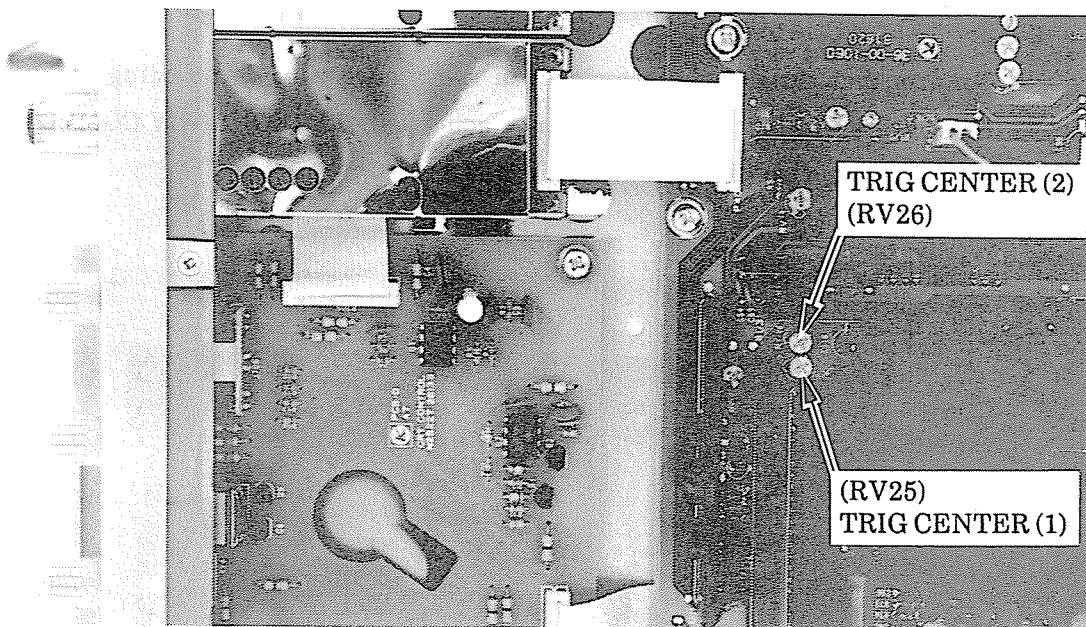

Fig. 4-24 Adjustment position of TRIG CENTER (1) (RV25) and TRIG CENTER (2) (RV26)
- (1) Perform initial setting of the oscilloscope in accordance with Table 4-3.
- (2) Set the input coupling of CH1 to "AC".
- (3) Connect the output of a signal generator which has been set to about 50kHz, to the input terminal of CH1, and adjust the signal output so that the amplitude of the waveform on the CRT is 8 DIV.
- (4) Set "TIME / DIV" to 5 $\mu$ s / DIV.
- (5) Confirm that the trigger point is at the center of the amplitude of the waveform. If it is not, adjust TRIG CENTER (1) (RV25) on board A4 shown in Fig. 4-24.
- (6) Set "TIME/DIV" to 10 $\mu$ s/DIV.
- (7) Set "HORIZ MODE" to "B", and "B TIME/DIV" to 5 $\mu$ s/DIV.
- (8) Set "DELAY TIME" to 0.00 $\mu$ s, and "B TRIG'D" to ON.
- (9) Confirm that the trigger point is at the center of the amplitude of the waveform. If it is not, adjust TRIG CENTER (2) (RV26) on board A4 shown in Fig. 4-24.